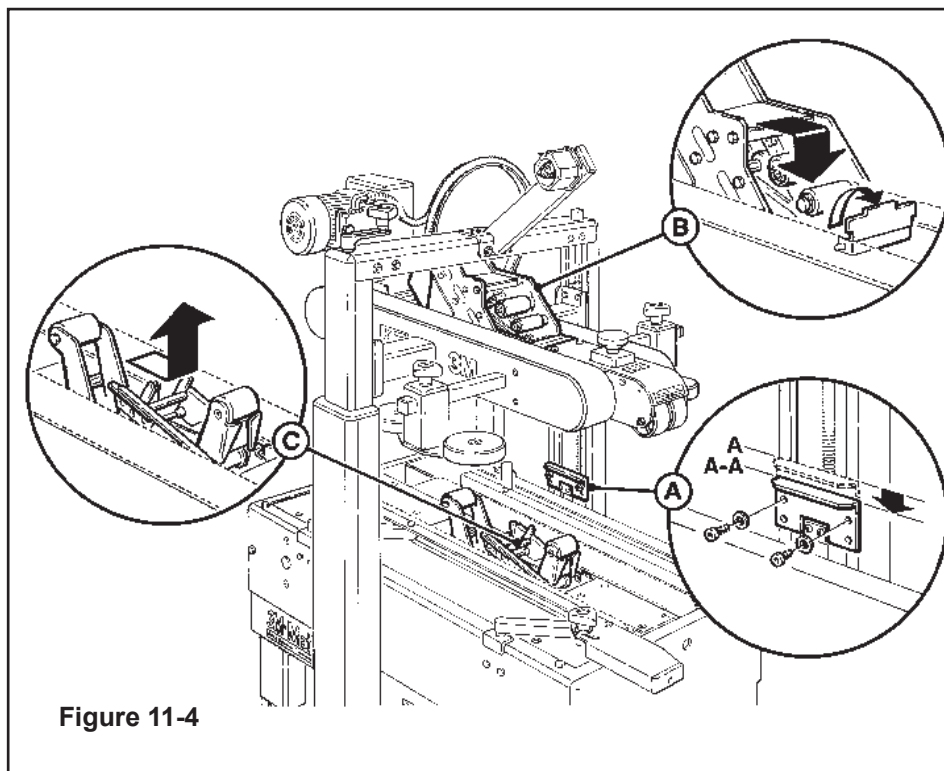

Figure 11-4
4. Repeat this procedure for both sets of compression rollers. Release Emergency Stop Button and press electrical ON (I) button (**Figure 11-4**).